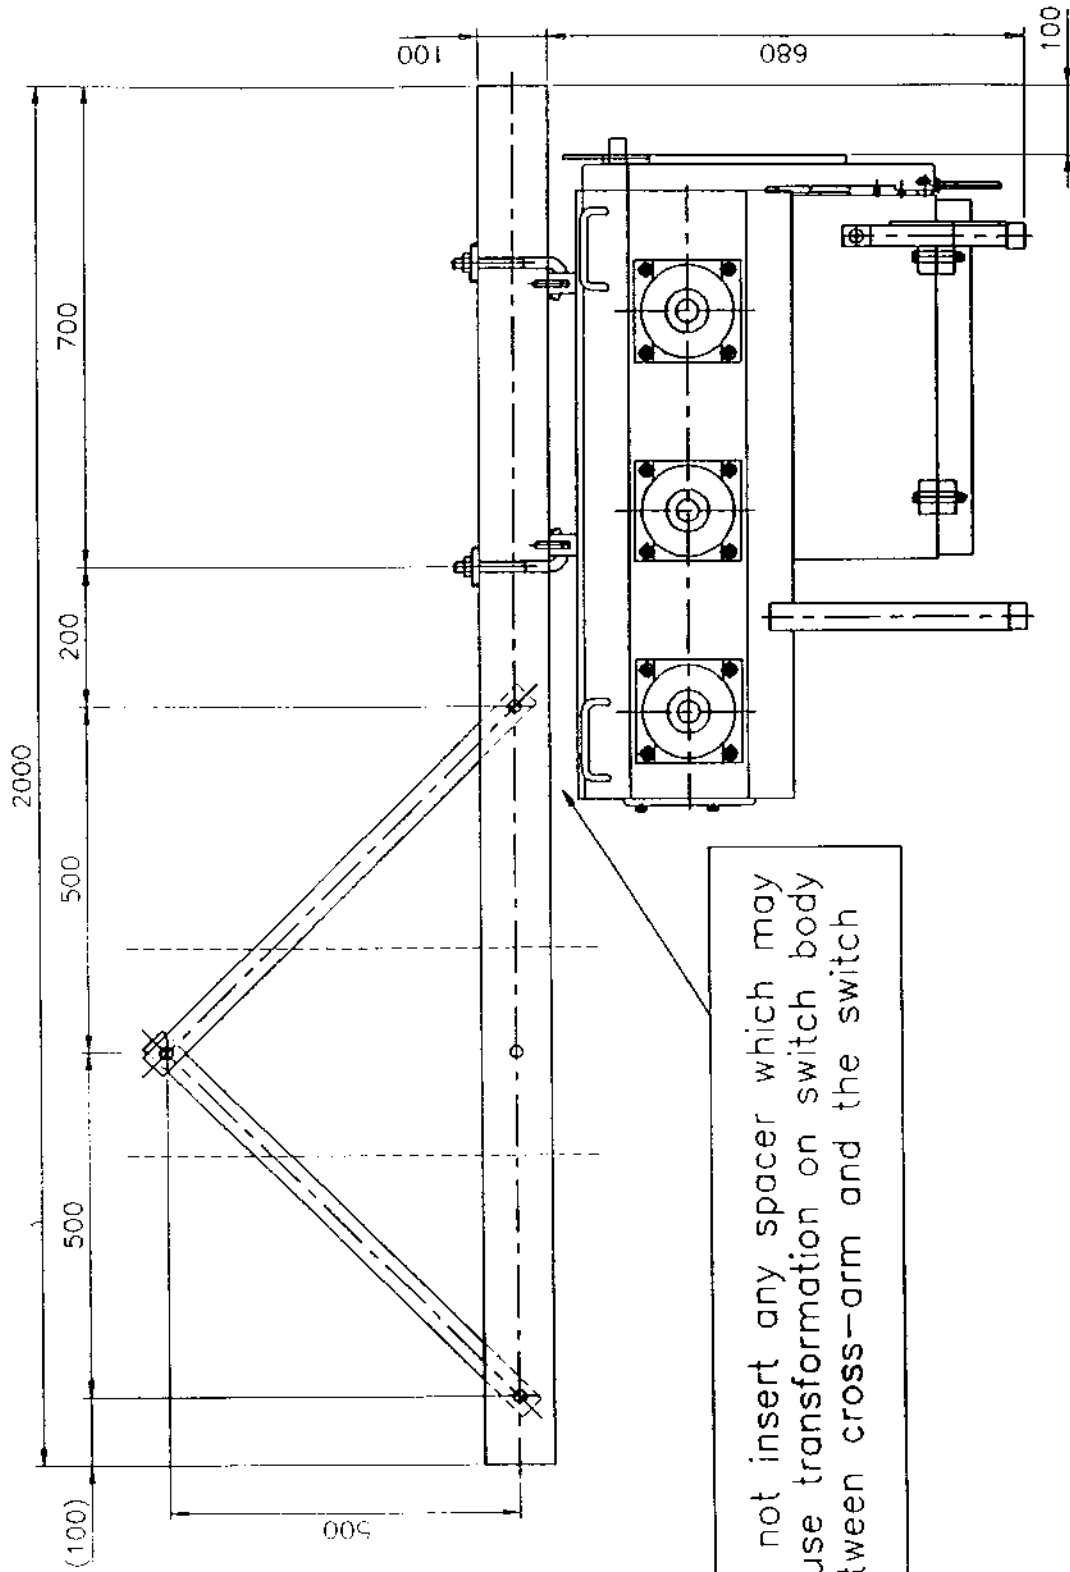

Fig.8
- Attach an erecting sling to each carrying handle of the switch with cross-arm shown as Fig.8